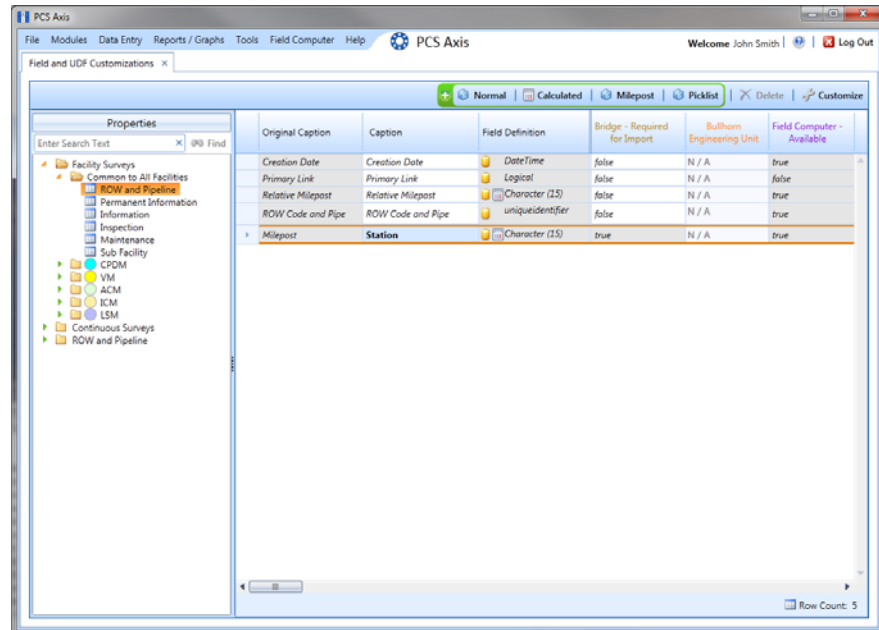

Figure 2-23. Field and UDF Customizations
- For example, to rename *Milepost*, type a new description in the adjacent field, such as *Station*. Bold text indicates a user-modified field as shown in Figure 2-23, page 53.